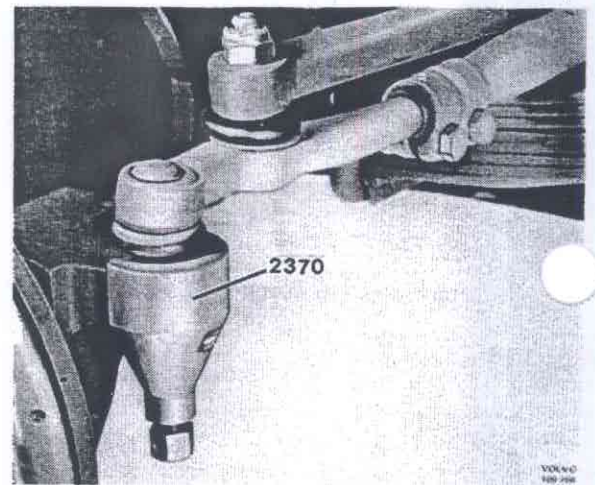

Fig. 63-4. Removing a steering joint
3. Remove the steering joint from the steering arm with puller 2370, see Fig. 63-4.